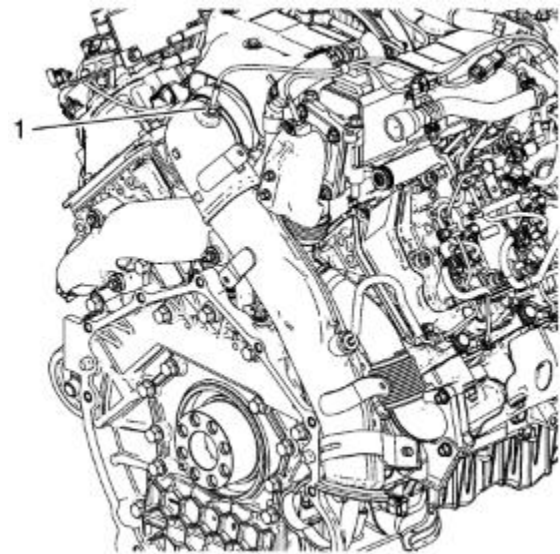

Fig. 131: Exhaust temperature sensor installation
- b. Install the exhaust temperature sensor as shown in figure 131. Torque the sensor to 14 ft-lb.